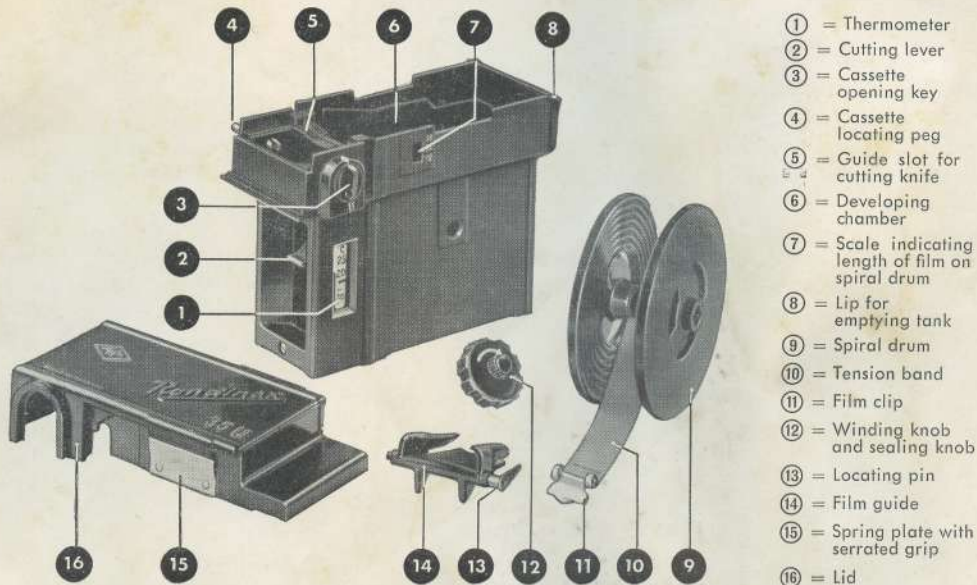

Fig. 1
Make sure that when the tank was last cleaned and reassembled the sealing knob (18) was not screwed up too tight, and that the winding knob (19) turns easily, and also ensure that the cassette chamber, film guide (14), spiral drum (9) and tension band (10) (see Fig. 1) **are completely dry.**
With the lid still off, wind about 2 inches (5 cm.) of the film on to the film guide by turning the winding knob (19) (see Fig. 4) slowly in the direction of the arrow. This length of film is ample to ensure that the end of the film is threaded cleanly into the film guide. No exposed frames will be lost in this way at the beginning of the film, because in loading the camera at least one frame is wound on after the tongue is entirely on the take-up spool before the first exposure is made. Should resistance be felt even when only this short length of film has been wound in, this indicates either that the corners of the film have not been turned under or that the leading edge of the film is not gripped centrally in the film clip, or maybe even that you have forgotten to replace the film guide (14) (Fig. 1).
As soon as a considerable resistance to winding is felt, **stop turning the knob immediately**, as this indicates that the complete film has been wound on to the drum. In the case of a 36-exposure miniature film this indicator (7) (see Fig. 1) will read 36. The film must then be severed from the empty cassette by pressing the cutting lever hard upwards to a definite stop (see Fig. 7).
If only part of the film has been exposed—say, 24 frames—there is no need to develop the whole film: wind the film on to the drum until the indicator (7) (see Fig. 1) points to 24, then with the knife cut off the part to be developed; there will then be wound on the drum 24 exposed frames together with about 2 inches (5 cm.) of unexposed film.